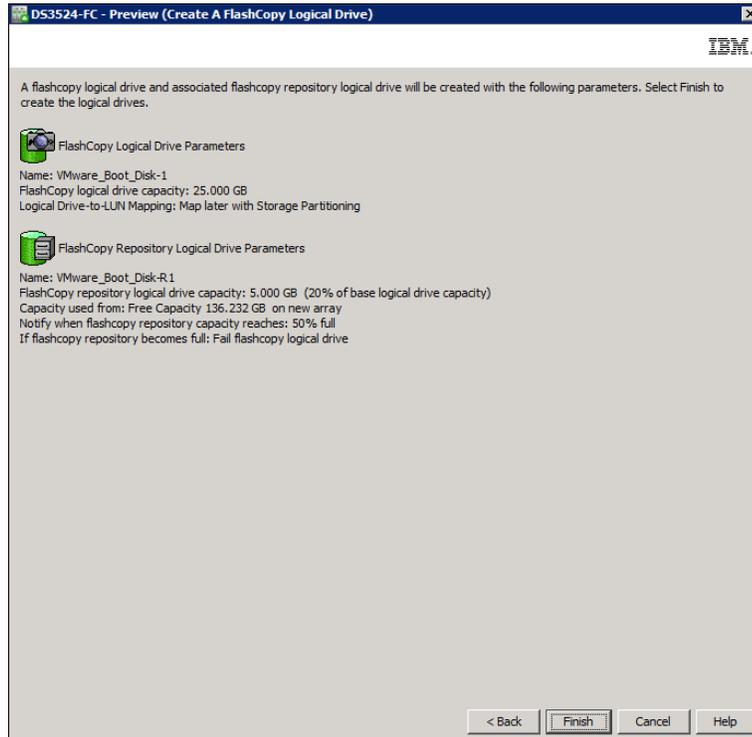

Figure 2-22 Create FlashCopy Logical Drive Wizard: Preview
- f. The Preview window (Figure 2-22) opens and shows the FlashCopy and repository parameters. Click **Back** to return to the previous windows and edit the parameters or click **Finish** to continue.
Notice that more information is available regarding logical drive parameters than was displayed in the Preview window when the simple path was used. The extra details associated with creating a new array from unconfigured space for the repository logical drive are shown in Figure 2-22.